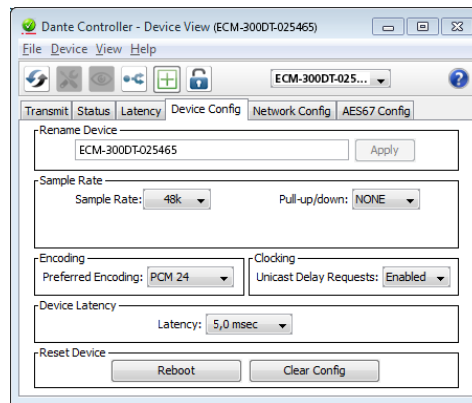

Fig. 3 Device View of ECM-300DT
- 5) The third bar can be used to indicate information on the unit and to make settings. Select the tab "Device Config" (see fig. 3).